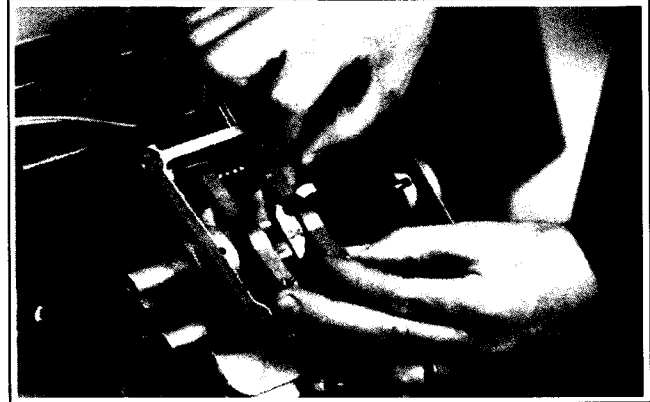

Figure 9-27. Removing Rocker Arm Assemblies (#2 Side Shown).
5. Lift rocker arm assembly off valve mechanism. See Figure 9-27.